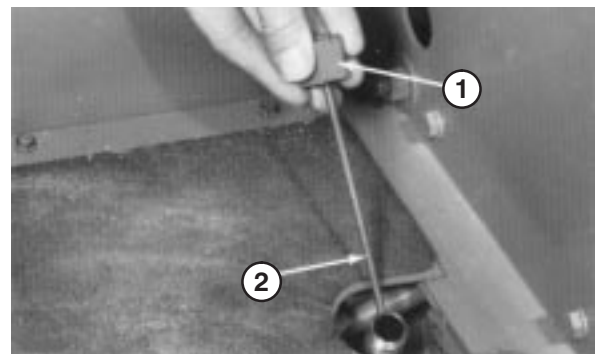

Figure 17
2. Unscrew dipstick cap (Fig. 17) from the filler neck and wipe it with a clean rag. Screw dipstick cap fingertight onto filler neck. Unscrew the dipstick and check level of oil. If level is not within 1/2 inch (13 mm) from the groove in the dipstick, add enough oil to raise level to groove mark. DO NOT OVERFILL by more than 1/2 inch (13 mm) above groove.